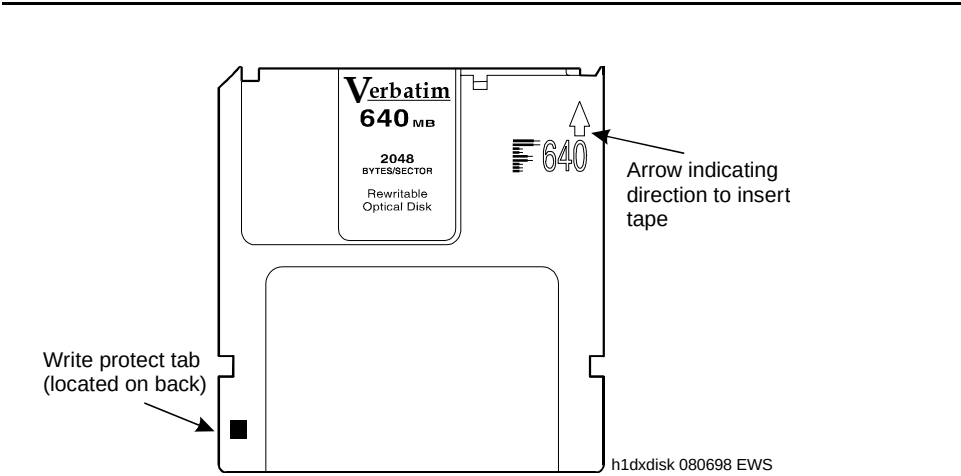

Figure 5-13. Magneto-Optical Disk Cartridge
- 1. Referring to Figure 5-13, insert the blank disk cartridge into the magneto-optical disk drive with the front face to the left.